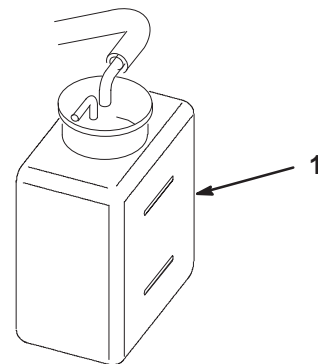

Figure 20
- Check the coolant level (Fig. 20). It should be between the lines on the reserve tank when the engine is cold.